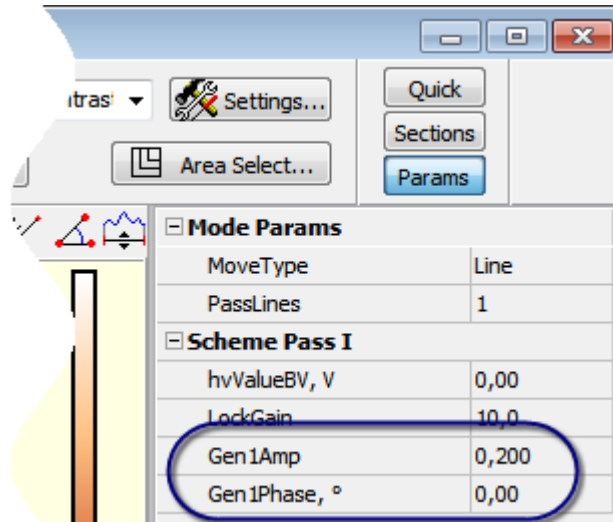

Fig. 8-36. Additional parameters panel
- Alter initial phase of the generator (parameter **Gen1Phase**) (Fig. 8-36);
- Alter amplitude of cantilever oscillations (parameter **Gen1Amp**) (Fig. 8-36);